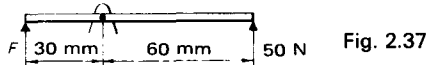

Fig. 2.37
1. Find the force  $F$  required to balance the lever shown in Fig. 2.37.